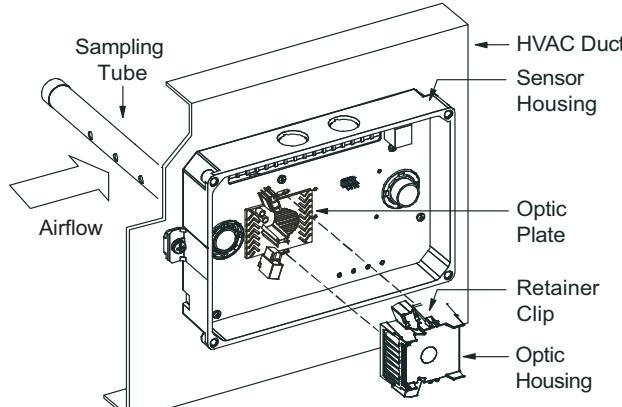

Fig. 46 – Sensor Cleaning Diagram
1. Disconnect power from the duct detector then remove the sensor's cover. See Fig. 46.